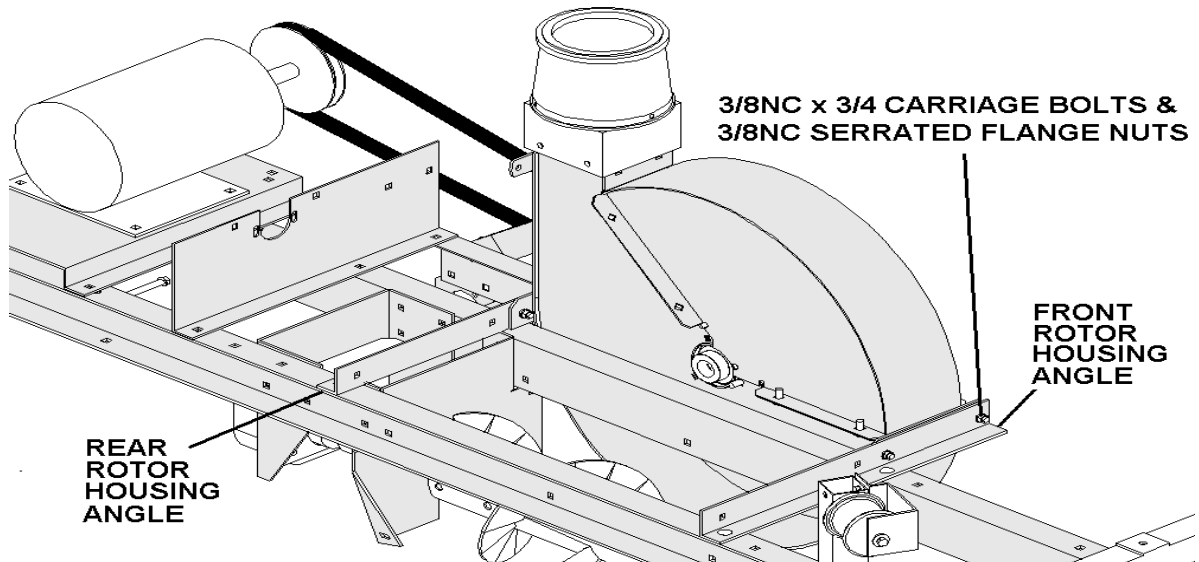

FIGURE 23
1. Bolt the (2) rotor mounting angles to the housing brackets at the front and rear of the rotor assembly using (4) 3/8" x 3/4" carriage bolts and whiz nuts. The angles are assembled with the legs facing away from each other. The rear mounting angle can be identified by an extra hole in the flat leg. See Figure 23.